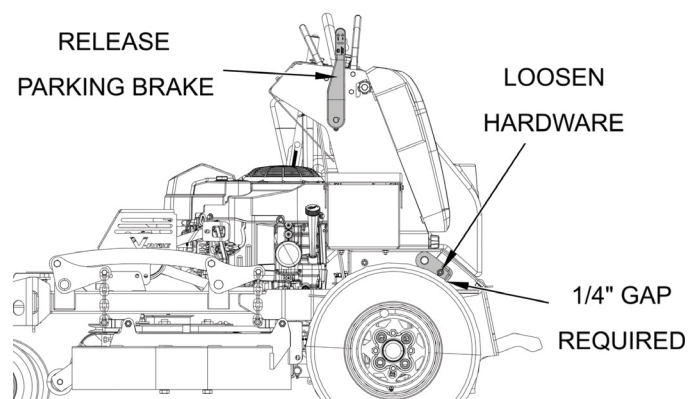

Figure 6-1. Parking Brake Adjustment
3. Look for a 1/4" gap between the left drive tire and the brake weldment. See Figure 6-1.